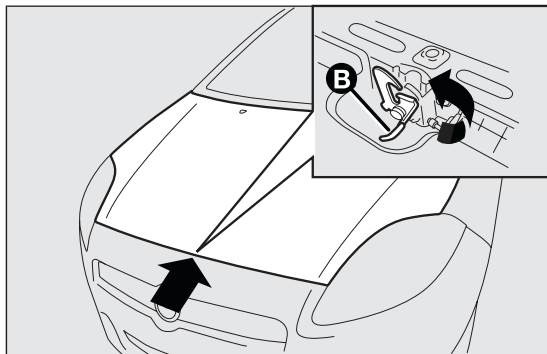

fig. 99
- ☐ pull lever B fig. 99 and lift the bonnet.